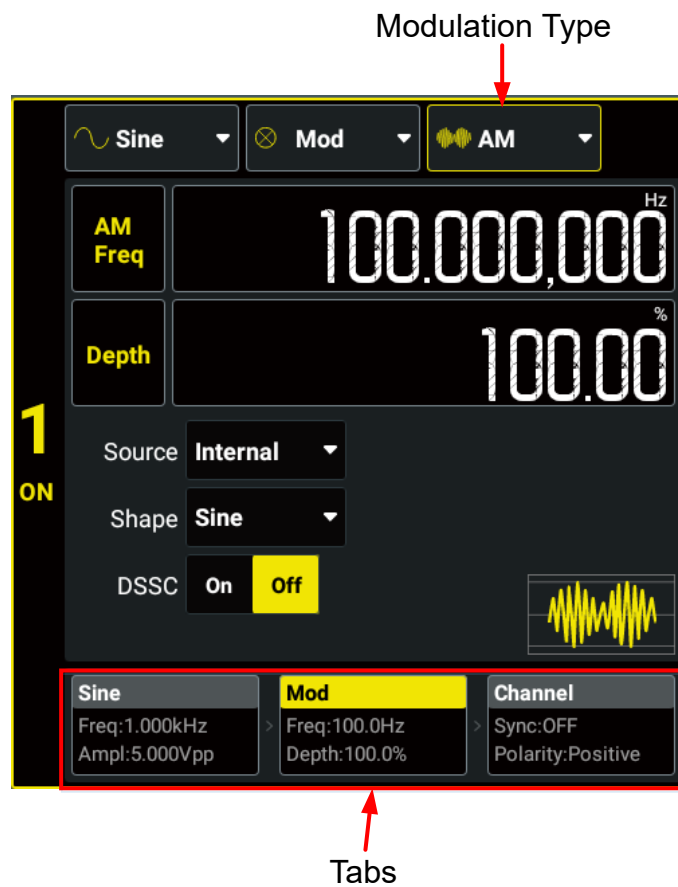

Figure 6.1 Modulation Setting Interface
Interface" (*Figure 6.1*), click or tap the "Modulation Type" drop-down button to select "AM" and set its parameters.
In Frequency Modulation (FM), a modulated waveform consists of a carrier waveform and a modulating waveform. The frequency of the carrier waveform is varied by the instantaneous voltage of the modulating waveform. In the "Modulation Setting Interface" (*Figure 6.1*), click or tap the "Modulation Type" drop-down button to select "FM" and set its parameters.
In Phase Modulation (PM), a modulated waveform consists of a carrier waveform and a modulating waveform. The phase of the carrier waveform is varied by the instantaneous voltage of the modulating waveform. In the "Modulation Setting Interface" (*Figure 6.1*), click or tap the "Modulation Type" drop-down button to select "PM" and set its parameters.
With Amplitude Shift Keying (ASK), you can configure the instrument to "shift" its output amplitude between two preset values (called the "carrier amplitude" and the "modulation amplitude"). In the "Modulation Setting Interface" (Figure 6.1), click or tap the "Modulation Type" drop-down button to select "ASK" and set its parameters.